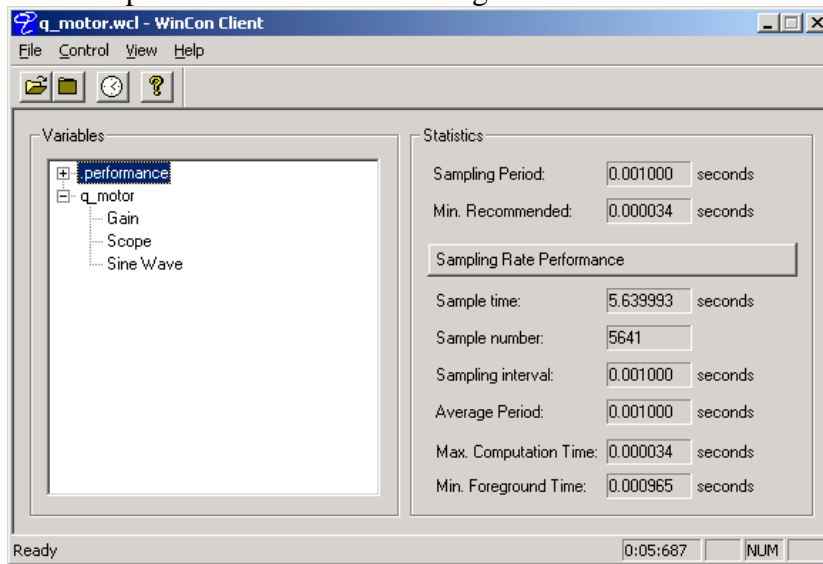

Figure 9 WinCon Client
Step 18. In order to confirm that the code is effectively running in real-time, you may click on the WinCon Client icon, most likely located in the taskbar at the bottom of your screen, to maximize it. The WinCon Client is the real-time component of the software. As shown in Figure 9, the WinCon Client's graphical interface displays the real-time performances of the running code.